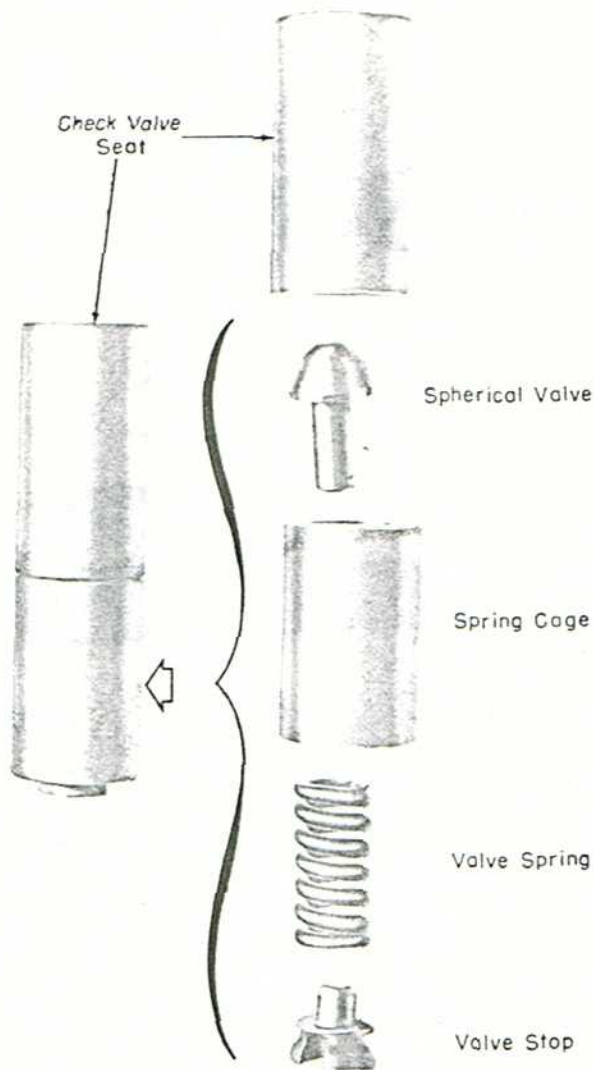

Fig. 20 - Spherical Valve Sub-Assembly
4. After dipping each part, make a sub-assembly of the valve seat, valve spring, valve stop and valve spring cage, Fig. 20. Carefully place this assembly centrally on the bushing, with small passage end of valve seat on bushing and valve stop upward.